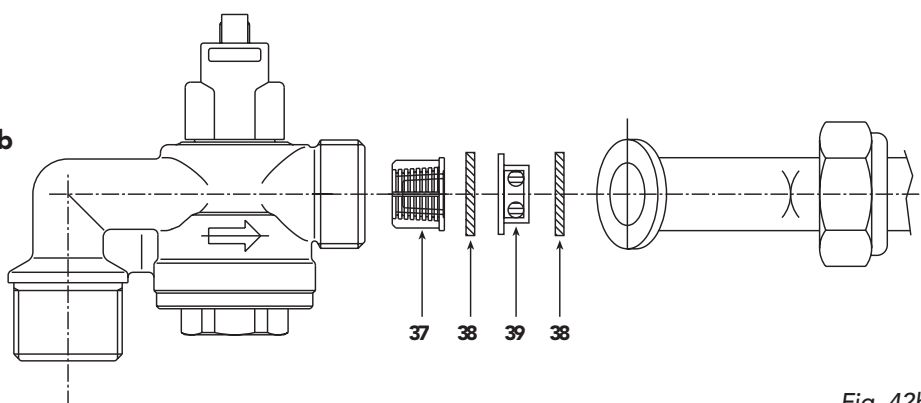

Fig. 42b
**Take care on correct position of components as reported in fig. 42b**